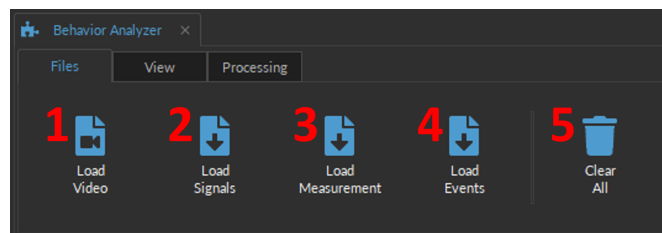
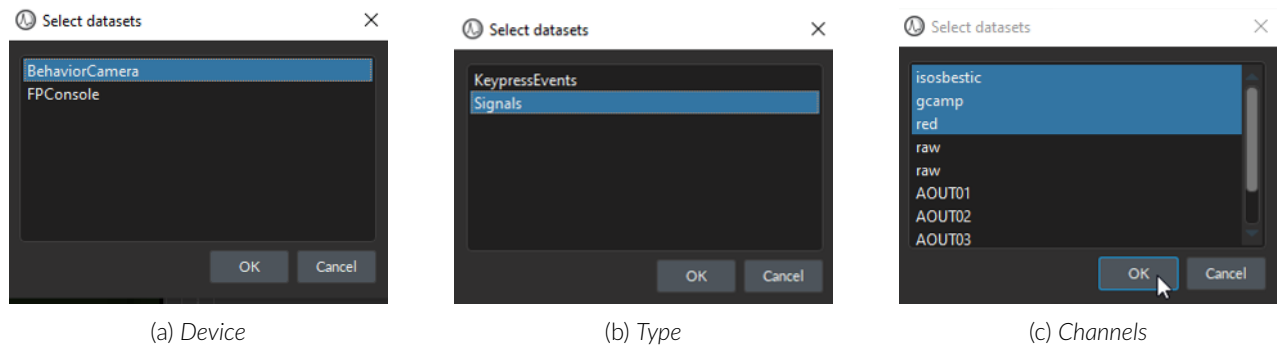
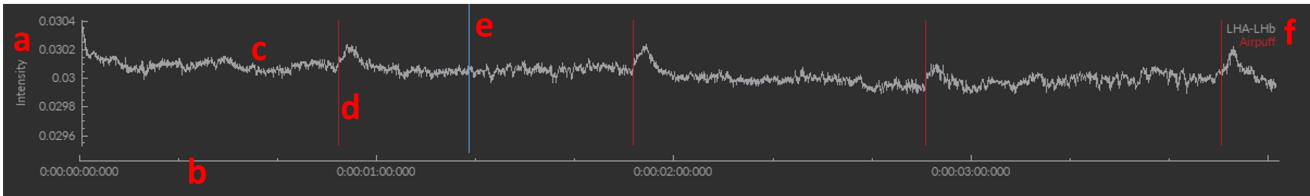

Figure 14.3: Behavior Analyzer, Files tab
Figure 14.4: Select Datasets
Figure 14.15: Signal View, graph
The **File** tab (Fig. 14.3) is primarily used to load and save the data. The following details the specific features of each button, as per Fig. 14.3:
1. The **Load Video** button (Fig. 14.3, 1) will open the File Explorer window where users can select any saved video that are in either .avi or .mp4 format. This does NOT necessarily need to be video data recorded with *Doric Neuroscience Studio*. Note that a warning will pop up if Video and Signal data are not the same lengths since this could affect data alignment.
2. The **Load Signals** button (Fig. 14.3, 2) opens a File Selection Window where users can select the .doric file of a previous recording and import it into the module. The file must contain both time and signal data. Once the file is selected, a **Select Dataset** window will pop up (Fig. 14.4), allowing the user to specify which device (Fig. 14.4a), signal type (Fig. 14.4b), and the channels (Fig. 14.4c) to include for data processing. Only the selected channels will be displayed within the **Signal View**. Multiple channels can be selected at once.
3. The **Load Measurement** button (Fig. 14.3, 3) allows users to import previous measurements (Animal Tracking or Motion Score) from a .doric file into **Signal View**. Data will be pulled from *DataBehavior/Measurement* folder within the .doric file.
- The **Load Events** (Fig. 14.3, 4) allows users to display **Keypress Events** from a .doric file and overlay it on the signal data in **Signal View** as vertical lines, at the appropriate time points. Select **KeyPressEvents** within the **Select Dataset** window (Fig. 14.4b) to import them into the module.
- The **Clear all** button (Fig. 14.3, 5) deletes all data currently loaded in the module. This data cannot be recovered, so ensure the data is properly saved before clearing it.
- a) The **Y-axis** (Fig. 14.15, a) for loaded signal, represents the intensity of the pixel, which is unitless. For the **Animal Speed**, the unit is in pixel/second, while the **Animal Motion Score** is plotted with Arbitrary Units (AU).
- b) The **X-axis** (Fig. 14.15, b) represents the time in d:hh:mm:ss:zzz.
- c) The **Trace** (Fig. 14.15, c) is the curve of the signal, corresponding to fluctuations in pixel intensity, from which $\Delta F/F_0$ will be calculated.
- d) The **Event indicators** (Fig. 14.15, d) are the overlaid **Keypress Events**, which can be imported using the **Load Events** button (Fig. 14.3, 4).
- f) The **Legend** (Fig. 14.15, f) displays the color code of the graph traces. The trace name of the signal is always included and, when present, keypress event(s) are also displayed.